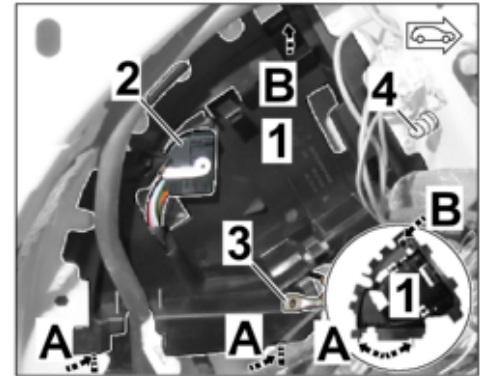

Figure 12
⇒ Figure 12 -A-
2.4.3 Clip trailer hitch control unit bracket at the top into the web plate on the body ⇒ Figure 12 -B-